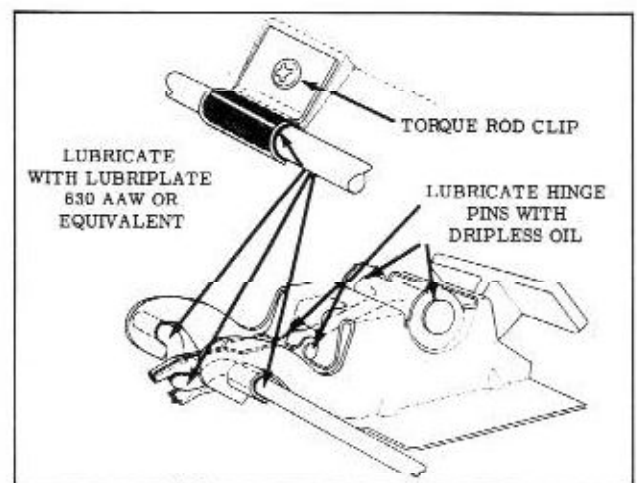

Fig. 15-53 Back Door Hinge & Torque Rod Lubrication
- Lubricate both right and left hinge pivot pins with an approved dripless oil. (Fig. 15-53)
NOTE: When installing hinge torque rod make certain torque rod is properly engaged with hinge, as shown in Fig. 15-53, and align torque rod retainer with previously made marks.
- After installation of torque rods, lubricate torque rod frictional surfaces on both right and left hinges and frictional surfaces of both torque rod clips with Lubriplate #630 AAW or equivalent. (Fig. 15-53)
- Using a suitable length of pipe over end of torque rod remove tension of torque rod from retainer. While tension of torque rod is removed from retainer, loosen retainer attaching bolts, (Fig. 15-53), adjust retainer forward or rearward, as required; then, tighten retainer attaching bolts.
- Lubricate both right and left hinge pivot pins with an approved dripless oil. (Fig. 15-53) Lubricate torque rod frictional surfaces on both hinges and frictional surfaces of both torque rod clips with Lubriplate #630 AAW or equivalent. (Fig. 15-53)